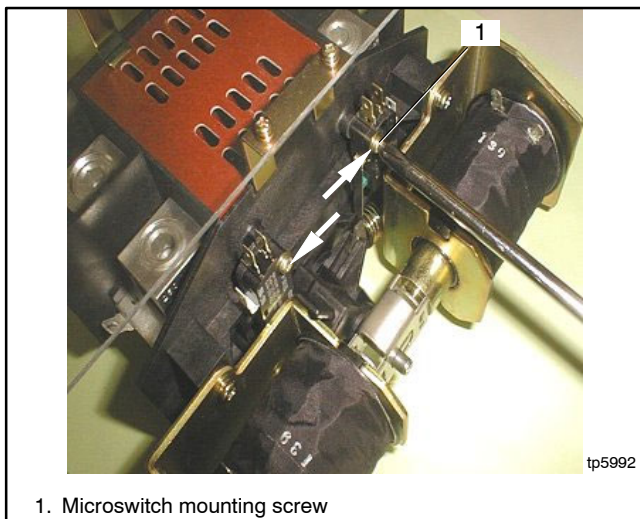

Figure 7-20 Install new Microswitch, 200 A Models
1. Remove the microswitch mounting screw and microswitch. See Figure 7-20.
2. Install the new microswitch. Push the microswitch mounting screw in the direction of the arrow shown in Figure 7-20 and tighten it to 0.44 Nm (4 in. lb.).